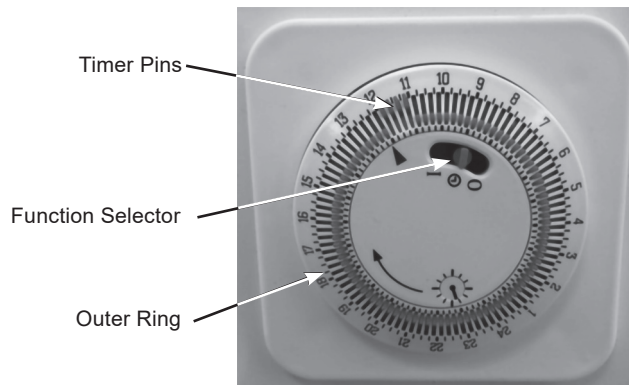

fig.3
4.5. TIMER FUNCTION (fig.3)
4.5.1. To activate timer function, turn the outer ring clockwise (fig.3) to set the correct current time. This will need to be repeated every time that the heater is reconnected to the power supply.
4.5.2. The function selector switch (fig.3) has three positions:
4.5.3. To select the time during which the heater is active, move the timer pins (fig.3) outwards for the period required. Each pin is equal to 15 minutes.